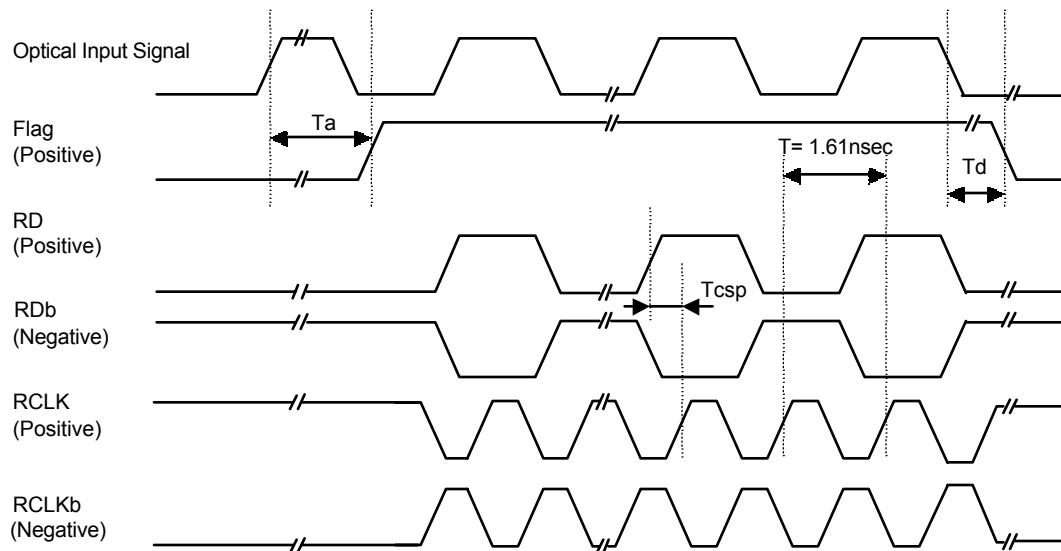

Figure 4. Timing Chart
7. Phase difference between cross point of RD and rising edge of RCLK. Refer to Figure 4.
4. Refer to Figure 4